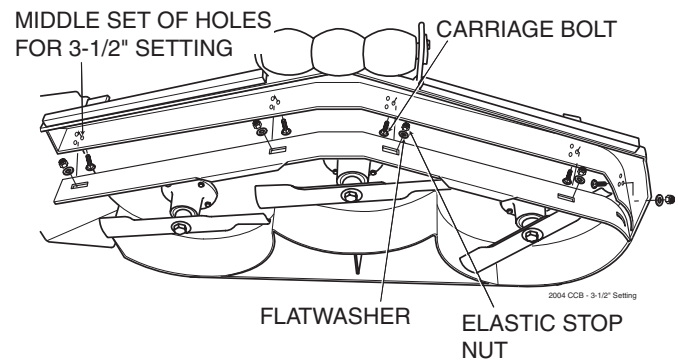

Figure 6-9. 3-1/2" Custom-Cut Baffle Position
- B. 3-1/2" Position (factory setting) - baffle is installed using the middle set of holes on the front baffle welded inside the cutter deck. (See Figure 6.9). For general purpose cutting, place the Custom-Cut Baffle in the 3-1/2" position. This gives the best mix of cutting performance in all types of grass.